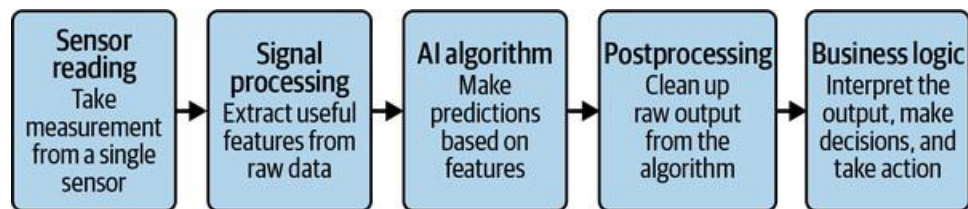

Figure 8-2. The basic edge AI application flow
In the most basic applications, there’s a single pipeline of software, all running on one device, that takes sensor data, processes it, and makes decisions. This is shown in **Figure 8-2**.
2. Begin with the simplest design pattern that you can: this will usually be Figure 8-2, especially if you are working on a single device.